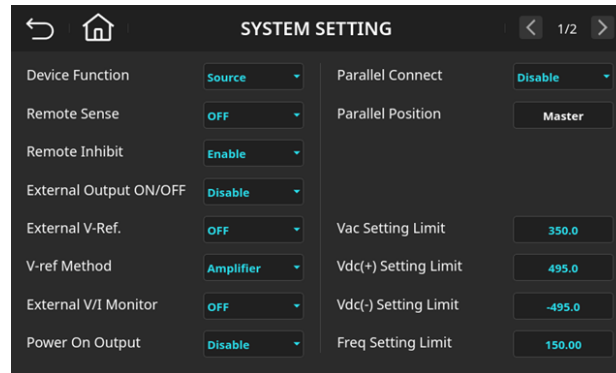

Figure 6-4 System Function Setting Page (Remote Inhibit = Enable)
2. Select "Enable" to activate the Remote Inhibit function, as shown in Figure 6-4.